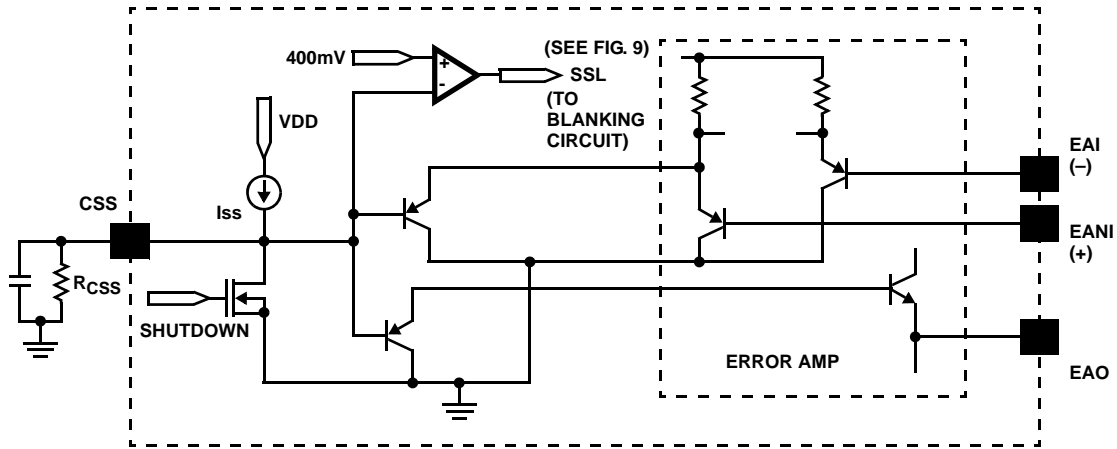

FIGURE 5. SIMPLIFIED CLAMP/SOFT-START
- Both EANI and EAO are clamped by the voltage (Vclamp) set at the CSS pin, as shown in Figure 5. Note that the diodes in the functional block diagram represent the clamp function of the CSS in a simplified way.
- The clamping voltage determines the cycle-by-cycle peak current limiting of the power supply. It should be set above the EANI and EAO voltages and can be programmed by an external resistor, as shown in Figure 5 using Equation 3.
eliminates response degrading delays which would be caused if filtering of the current feedback was incorporated. The current ramp is blanked out during the resonant delay period because no switching occurs in the lower FETs. The leading edge blanking function will not be activated until the soft-start (CSS) reaches over 400mV, as illustrated in Figures 5 and 9. The leading edge blanking (LEB) function can be disabled by tying the R_LEB pin to VDD, i.e., LEB = 1. Never leave the pin floating.